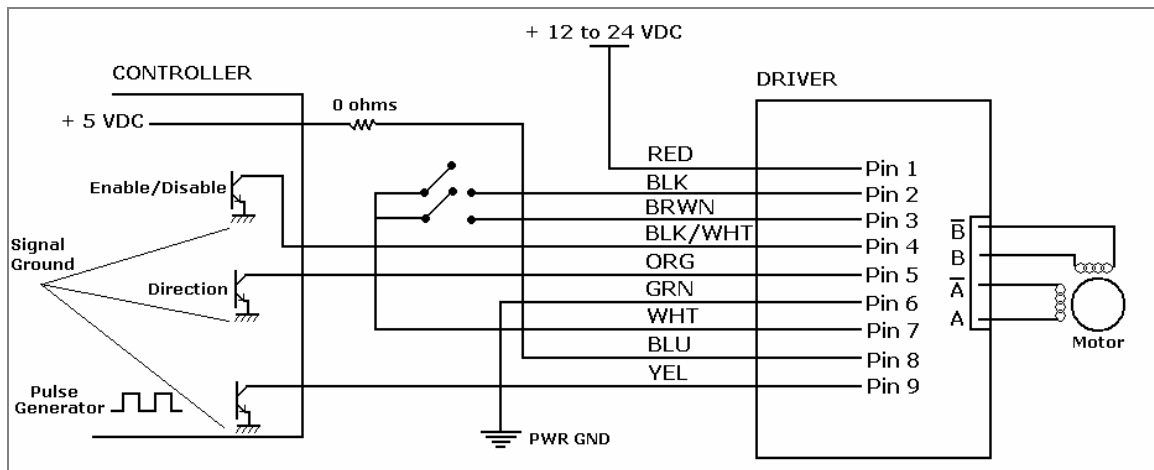

Figure 4: Connections Diagram
3. Apply the appropriate power supply to the R208 unit. (See *Figure 4*)
To connect the R208 according to *Figure 4*, begin by connecting your step motor to the R208, for details on how to make that connection refer to *Section 8 – Motor Connections*. Next, connect the DB-9 mating connector to the R208.